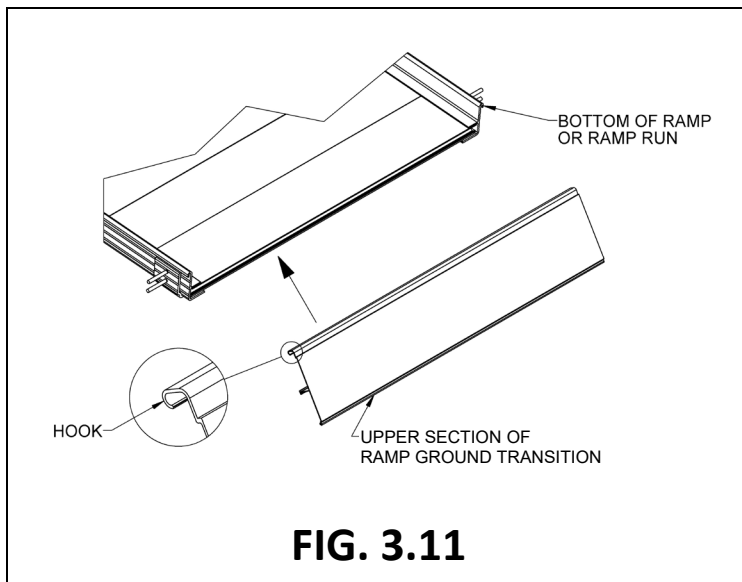

FIG. 3.11
3.5.2. Lift the lowest end of the ramp/ramp run and bring the upper section of the HARRGT into the ramp end tread until the “hook” is engaged (FIG. 3.11).